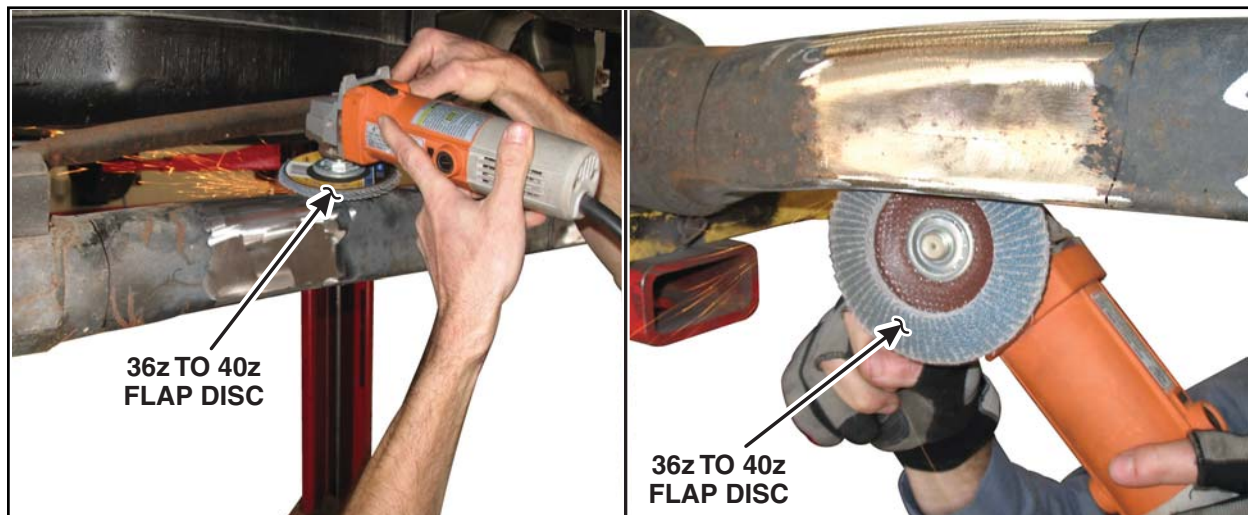

FIGURE 4
8. Using a 36z to 40z flap disc or equivalent, grind the rear axle in the marked areas. Remove all E-coat and rust. Metal should be shiny in appearance. (Do not try to remove tool marks or marks caused by deep stone pecking or pitting.) See Figure 4.